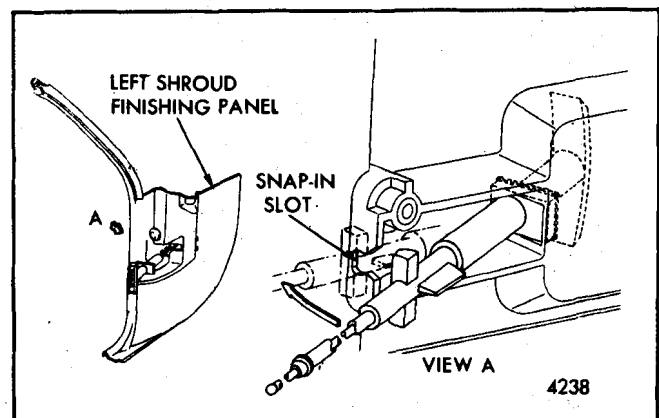

Fig. 5-16-Hood Latch Release Cable
The rear section of the hood latch release cable includes the pull handle, control cable and housing. The control cable is installed through the left shroud side finishing panel (Fig. 5-16). A sealing grommet at the dash panel completes the assembly.
- Disengage control assembly housing from snap-in slot of finishing panel (Fig. 5-16) and remove cable assembly from panel pulling toward pull handle end.